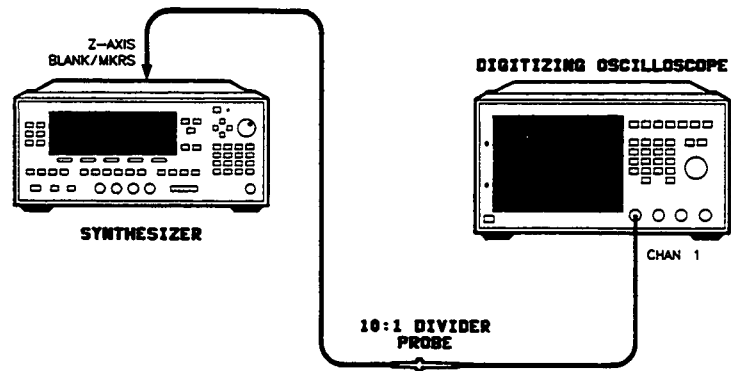

Figure 2-4. Frequency Switching Time Test Setup
1. Connect the equipment as shown in figure 2-4. Preset both instruments and let them warm up for at least one hour.